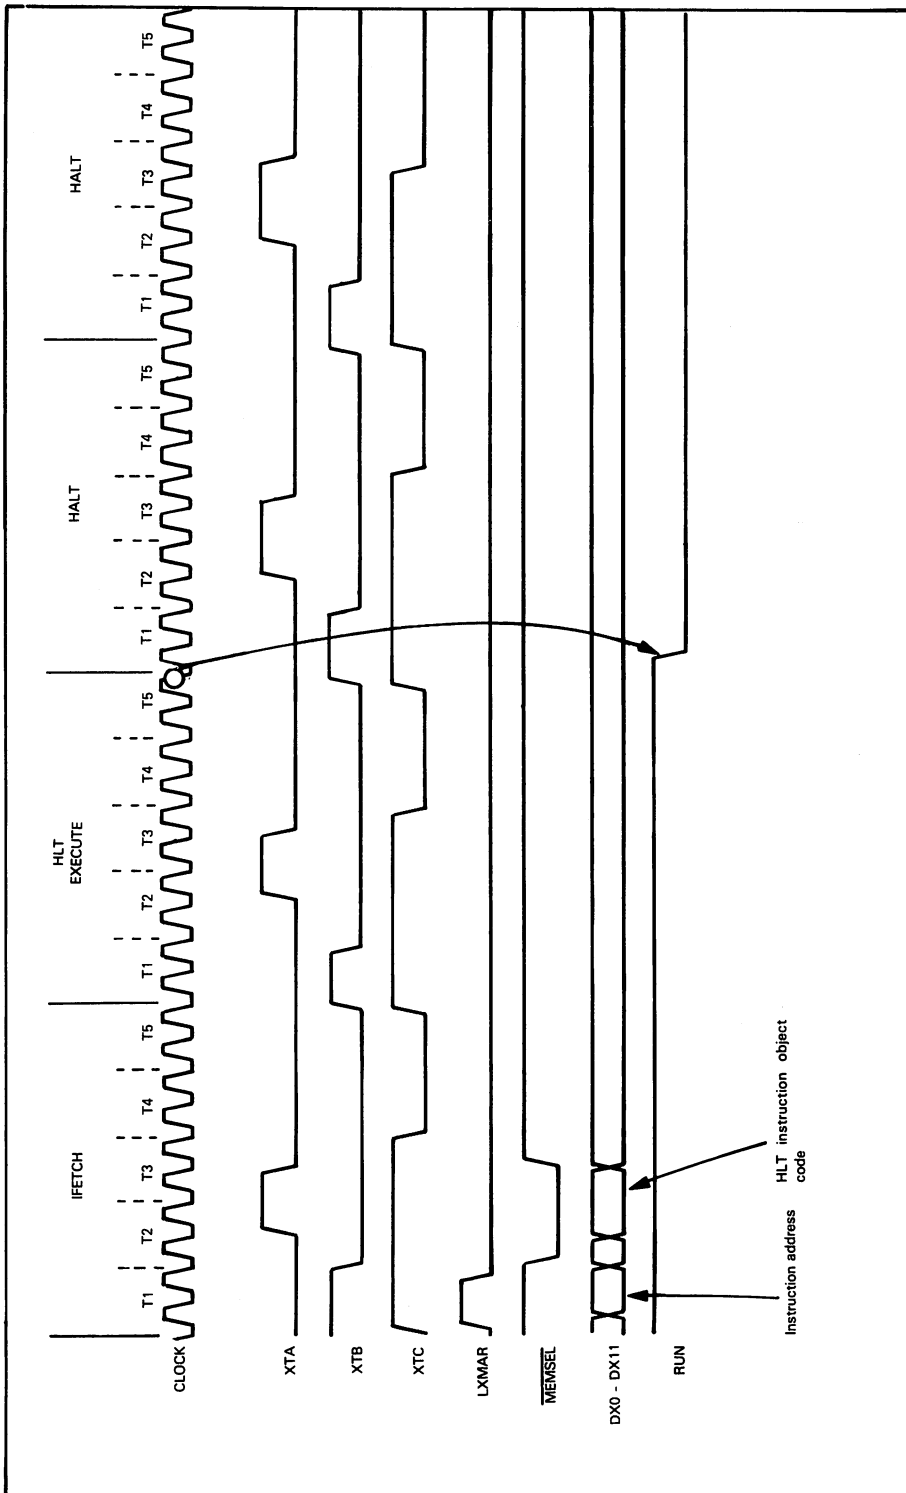

Figure 13-19. An IM6100 Halt State Initiated by Execution of a HLT Instruction
**The RUN output signal always indicates whether the CPU is running or has been halted.** RUN is output high while the CPU is running; RUN is output low when the CPU has halted. **Figures 13-19 and 13-20 illustrate Halt state timing.** Note that once a Halt state has been initiated, either by executing the Halt instruction or by inputting RUN/HLT low, the **Halt state will last some integral number of five-clock-period machine cycles.**